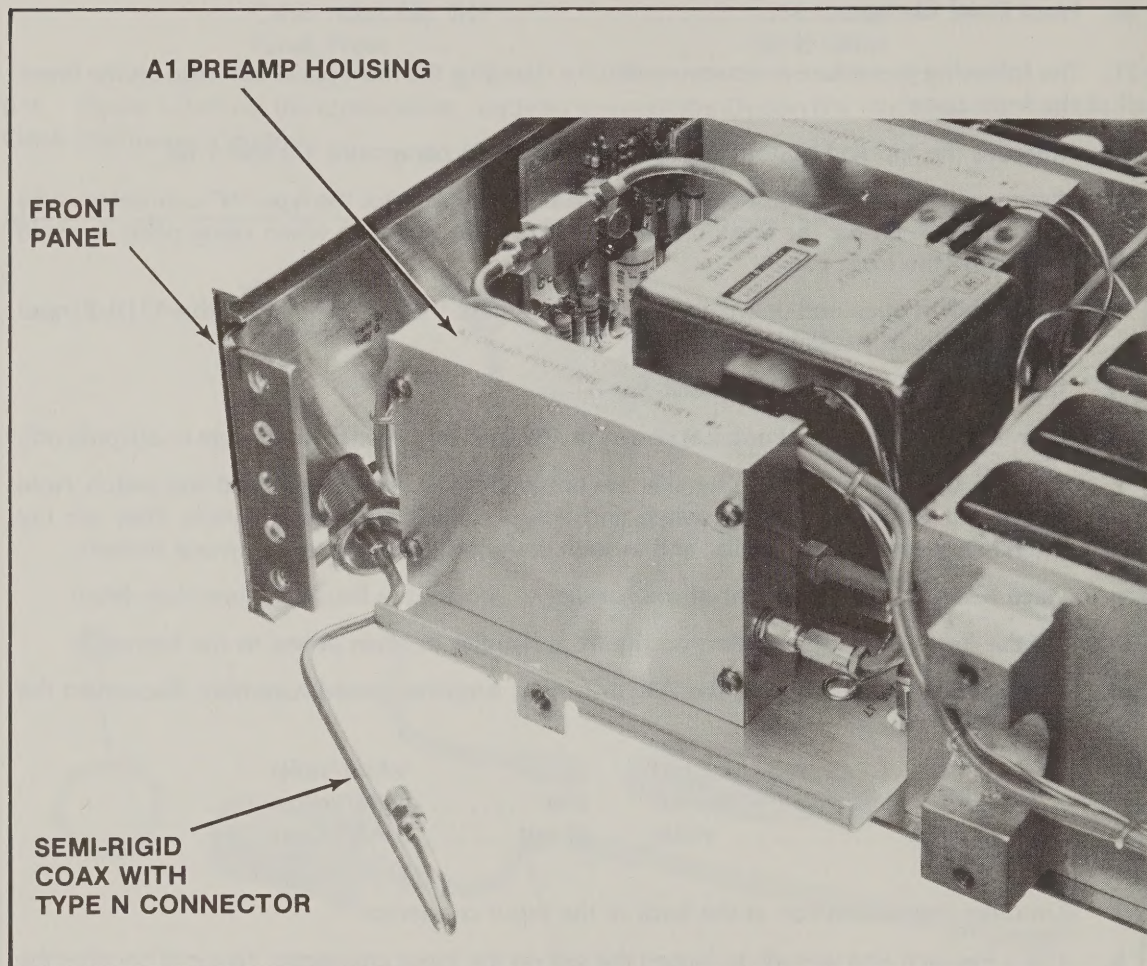

Figure 1-3. Type "N" Connector Installation for Option 006 (Side View)
- b. To install the semi-rigid coax with the type "N" input connector, flex the front panel forward by pressing on the front of the A1 Preamp assembly housing and the edge of the front panel with thumb and forefinger and insert the connector into the front panel (refer to Figure 1-3).